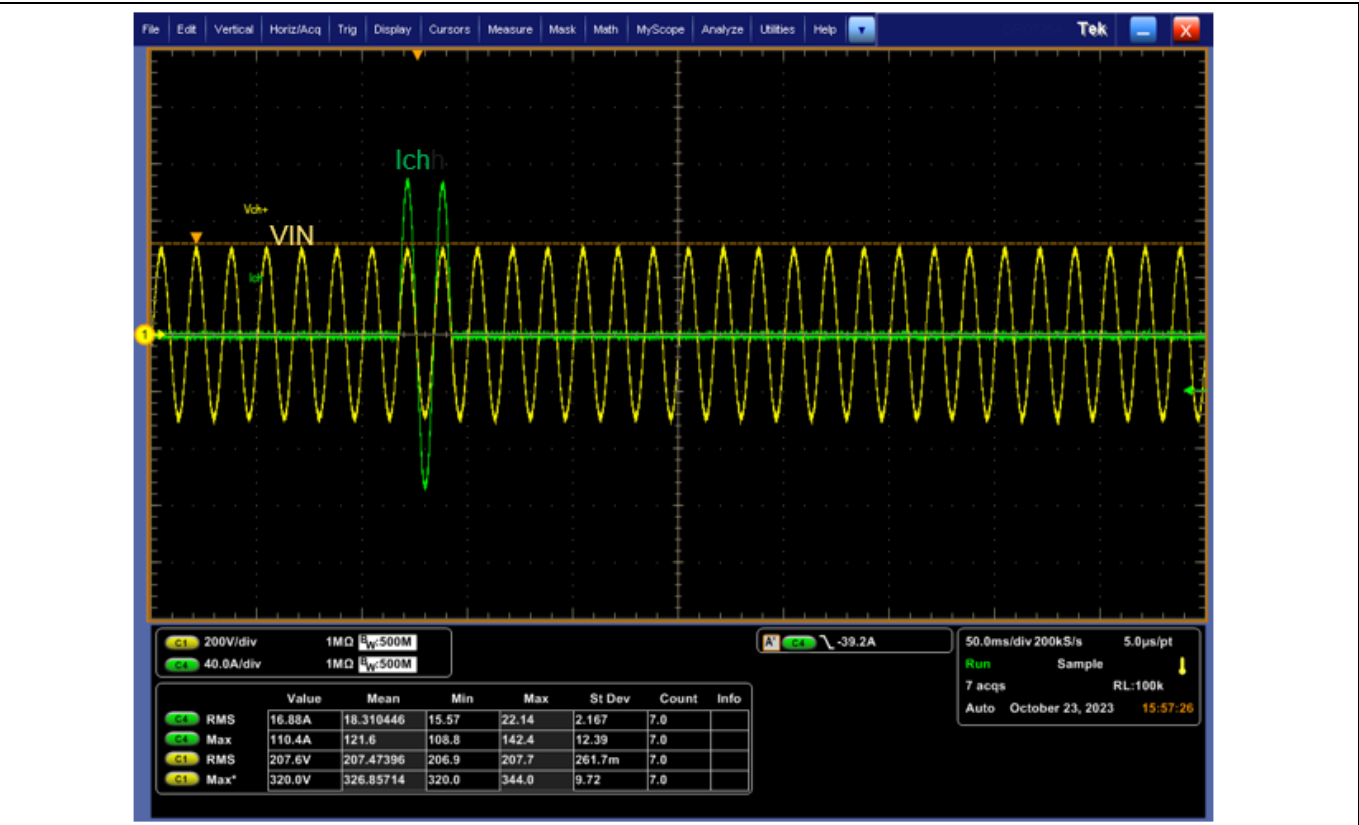

Figure 22 AC15 OVL test
- AC15 OVL: Latched error flag sets when  $I_{ch}$  is above the RMS overcurrent factor fast threshold for 1.5 or 2 cycles in AC and 30-40ms in DC system; see Figure 22 test.